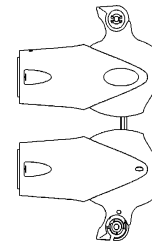

Figure 6
5. Install LED cover and assembly Outside Housing A/B as Figure 6.